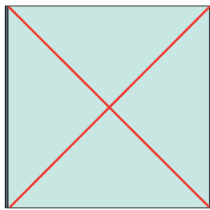

Fig. 1
- Mark a diagonal line across both diagonals on the wrong side of the top fabric square. (Fig. 1)